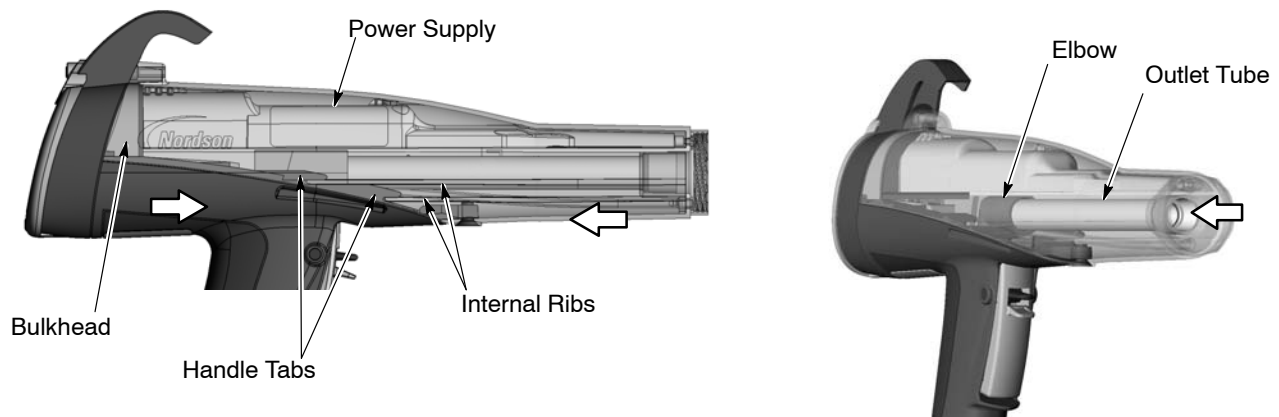

Figure 6 Mating the Gun Body with the Handle and Connecting the Outlet Tube to the Elbow
12. See Figure 6. Align the gun body with the handle, and feed the power supply harness through the top hole in the bulkhead. Slide the gun body and handle together, engaging the internal ribs of the gun body with the handle tabs.